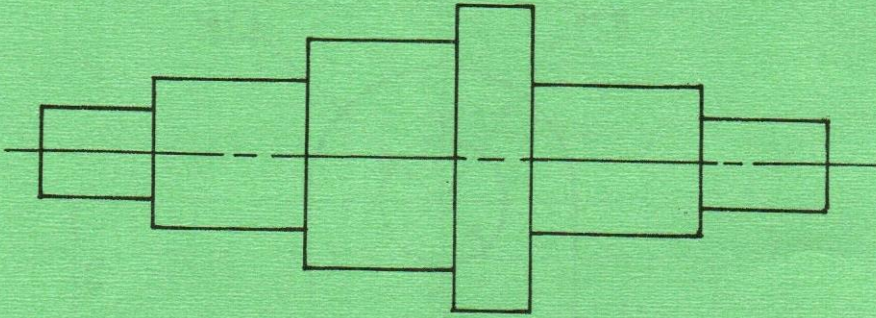

Fig. 3
- (b) Figure 3 shows a stepped shaft. Copy the figure proportionally and show chain dimensioning on it. (3 marks)